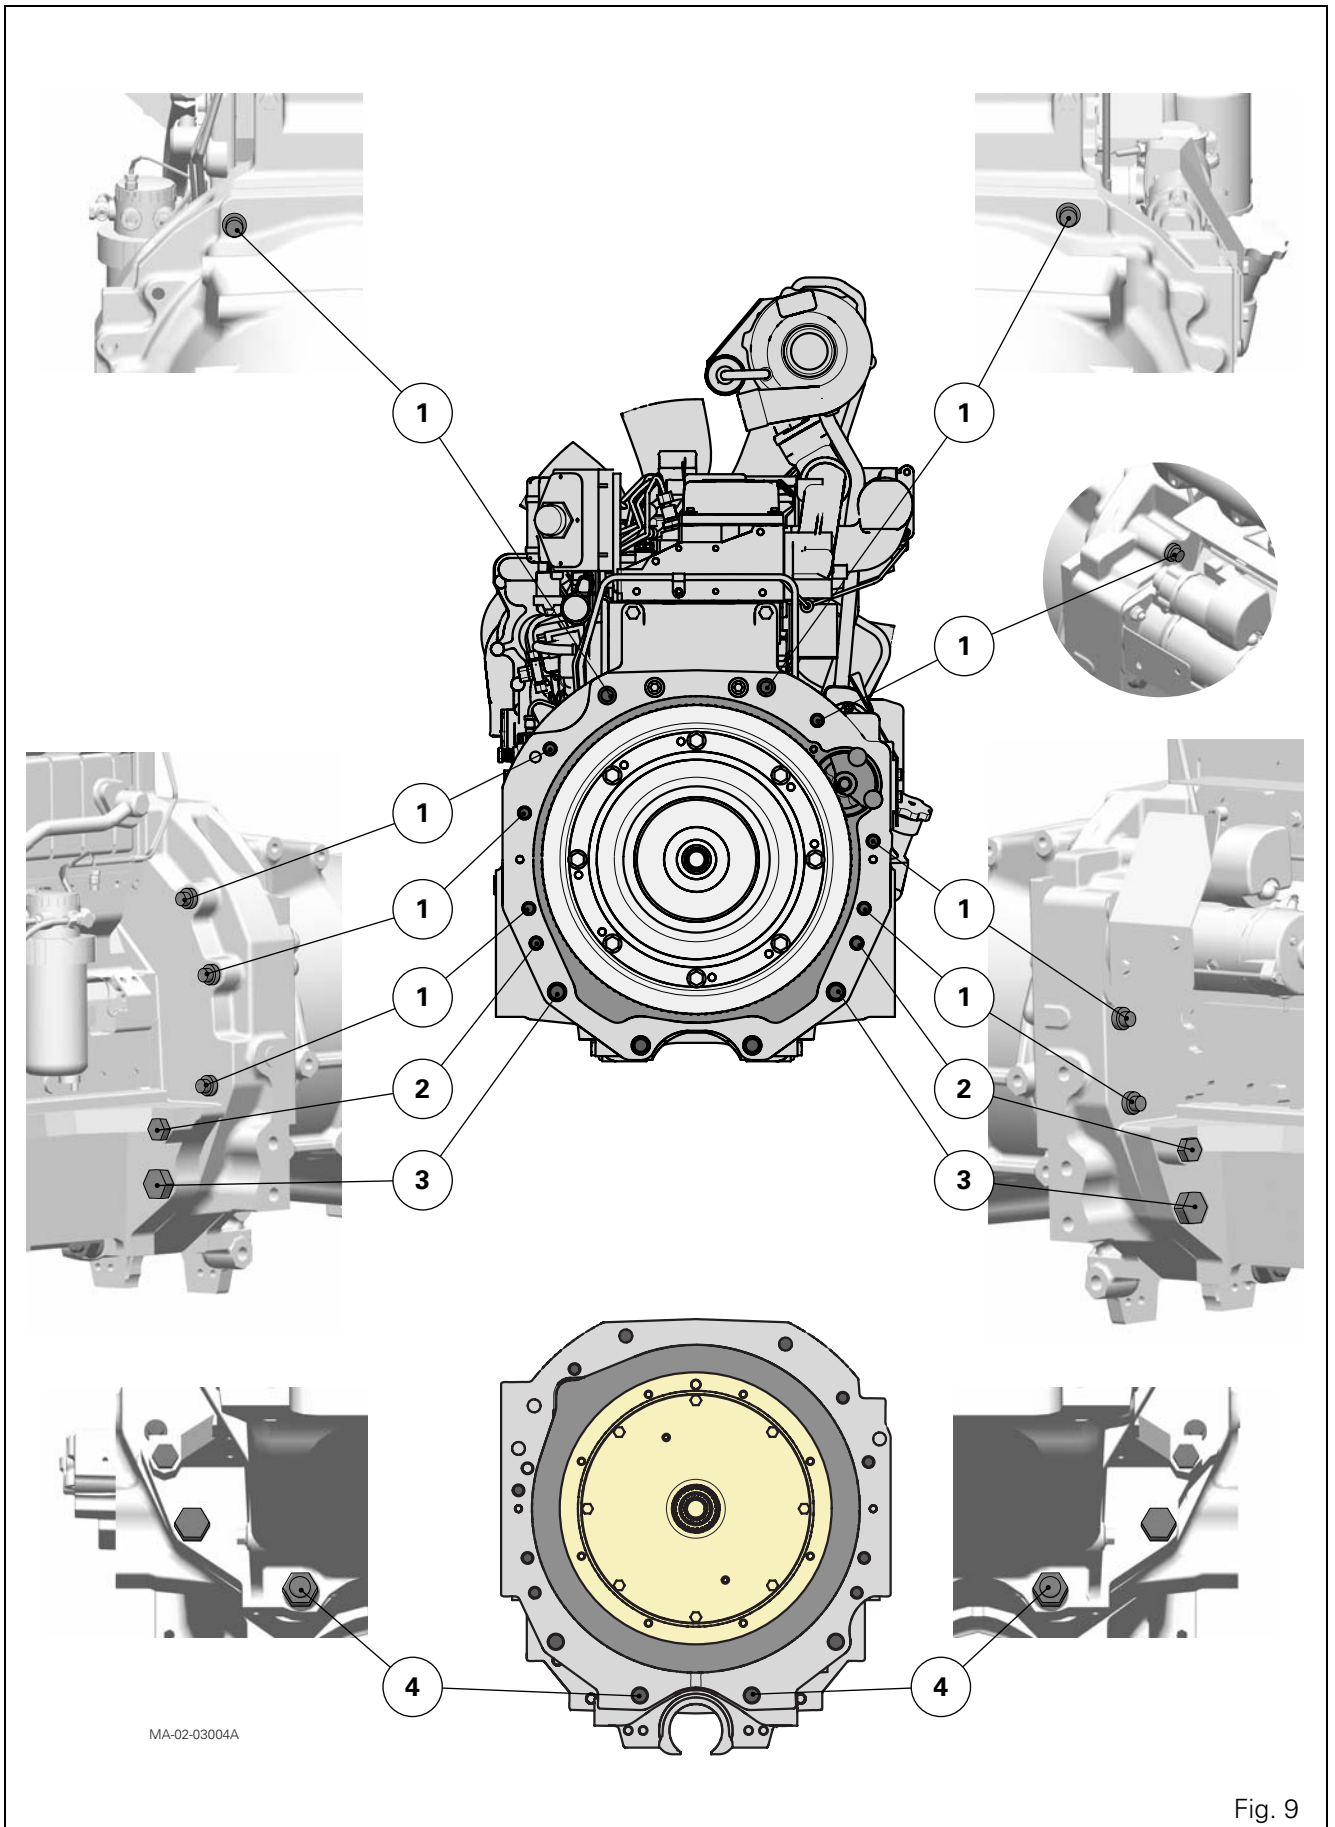

Fig. 9
22. Remove the screws and nuts attaching the engine to the gearbox (Fig. 9). Mark their lengths and positionings.